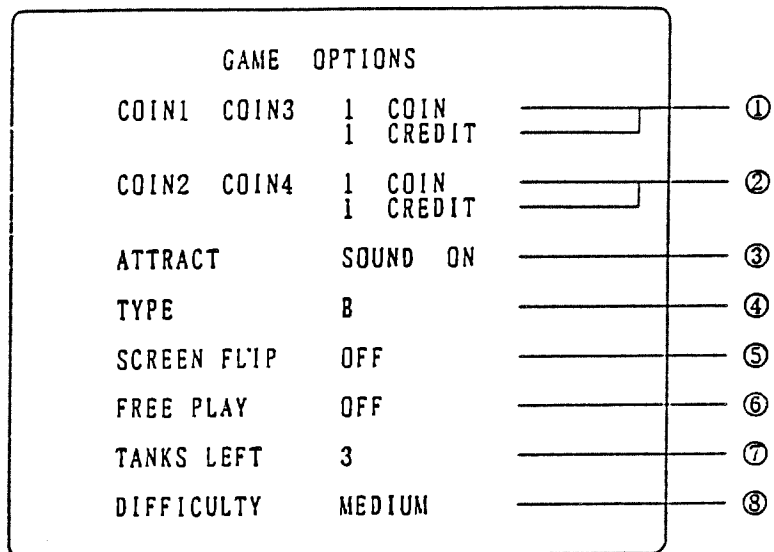

Fig. 6 Game Option Screen
(b) Self-testing continues for a few seconds. If the PC boards are normal, the screen (game option screen) as shown in Fig. 6 (P. 8) is displayed on the monitor.
(b) The items (displayed in red) from 1 to 8 can be changed one after another by operating the control lever up and down. Item 1 follows item 8 (See Fig. 6, P. 8).